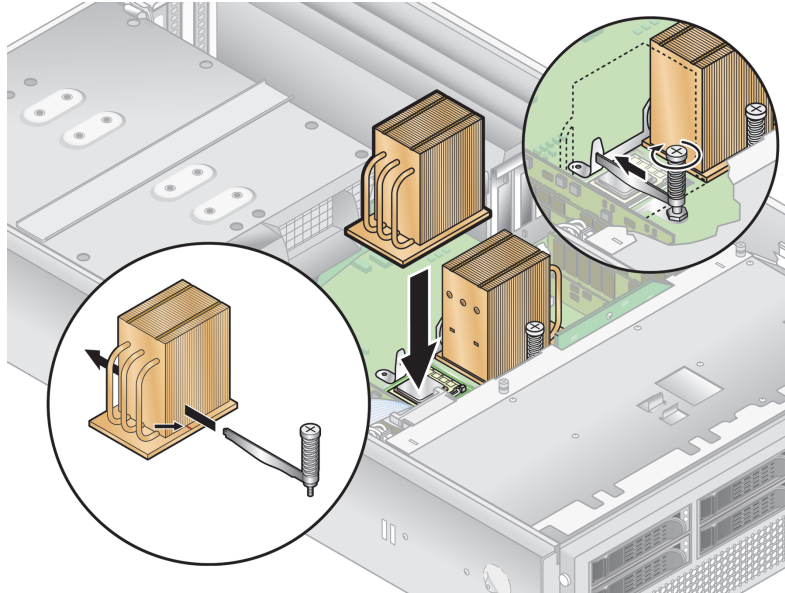

FIGURE 11 Replacing the Heatsink Hold-Down Assembly Crossbar
12. After the heatsink is correctly aligned, reinsert the hold-down assembly crossbar through the heatsink fins (see FIGURE 11):